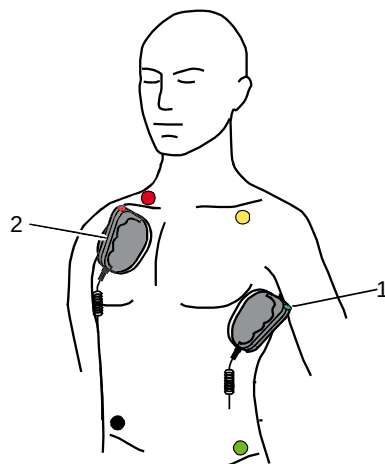

Fig. 5-5 Applying the shock paddles
7. Place the APEX shock paddle (Fig. 5-5, item 1) on the lower left of the thorax beside apex of the heart (5th ICS).
8. Place the STERNUM shock paddle (Fig. 5-5, item 2) to the right of the sternum.